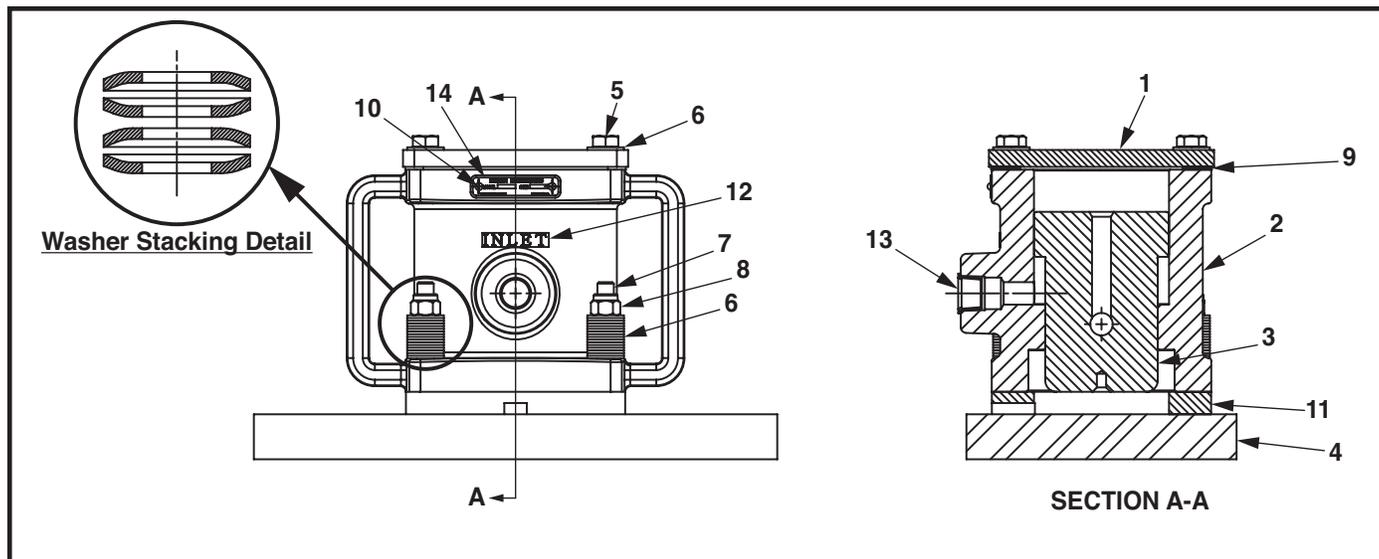

Figure 10. Martin® PV 2-1/2 (P/N 18105) Piston Vibrator Assembly
- Martin® PV 2-1/2 Piston Vibrator:** P/N 18105 See Figure 10.